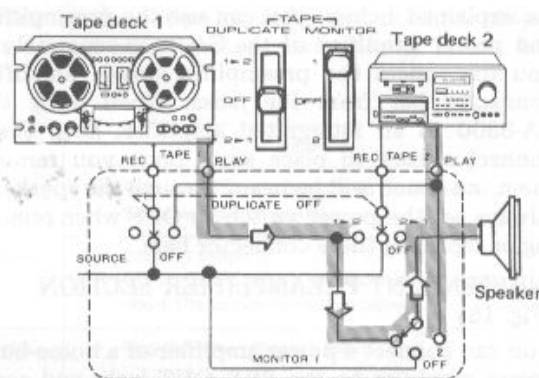

Fig. 11
1. As shown in Fig. 11, set the tape monitor switch to 1 if the tape deck is connected to the TAPE 1 jacks. Set the tape monitor switch to 2 if it is connected to the TAPE 2 jacks.